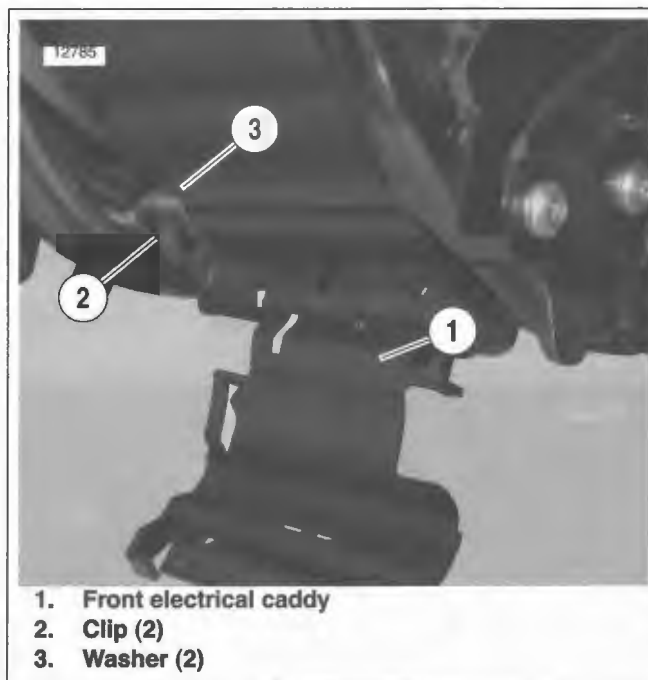

Figure 8-26. Front Electrical Caddy
1. See Figure 8-26. Install clips (2) on front electrical caddy (1) over washers (3).